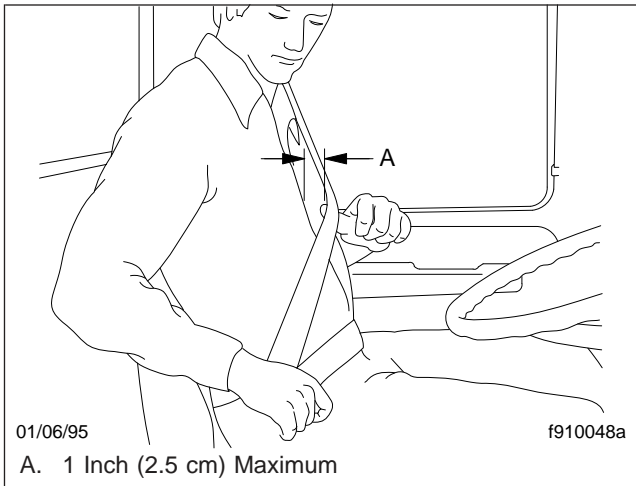
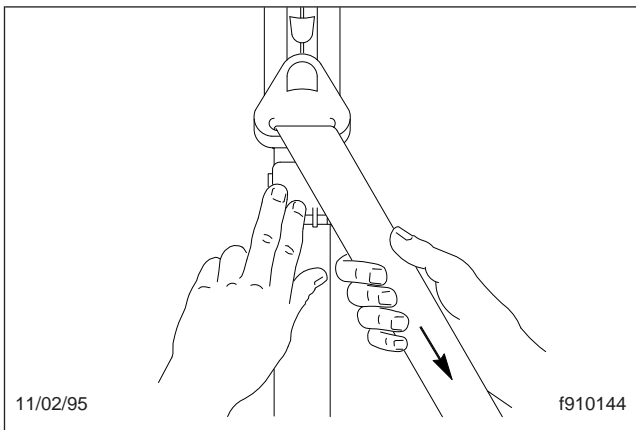

Fig. 6.11, Adjusting Shoulder Harness Clearance, Komfort Latch
Fig. 6.12, Locking the Komfort Latch
*If equipped with a Komfort Latch, pull on the shoulder strap to lessen the pressure of the strap on your shoulder and chest. Allow no more than 1 inch (2.5 cm) of slack between your chest and the shoulder harness. More slack can significantly reduce the seat belt effectiveness in an accident or a sudden stop. While holding the belt slack, press the Komfort Latch lever up, clamping the seat belt webbing (**Fig. 6.11** and **Fig. 6.12**).*